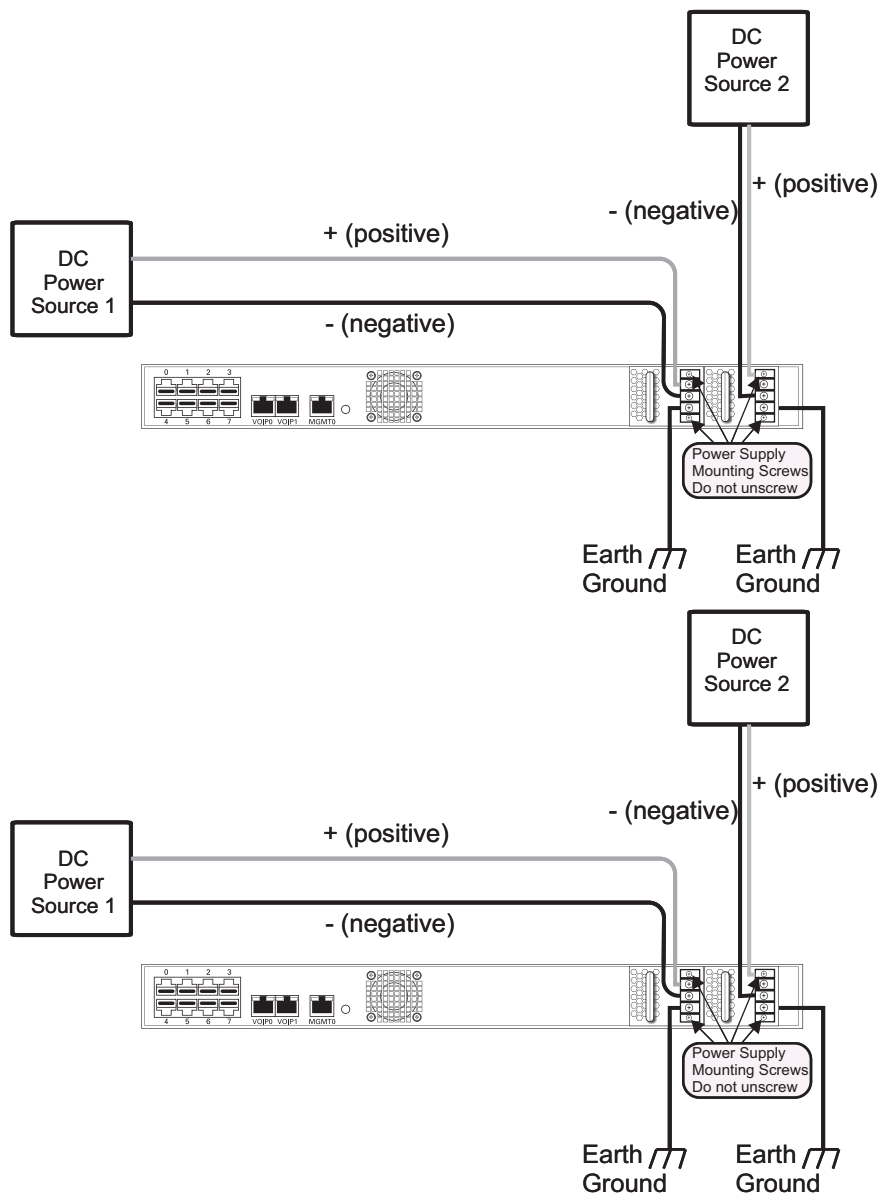

Figure 2.12 800 Series and 800 Series +1 DC Power Connections
1. Connect one wire from the positive terminal of the 800 series gateway to the positive side of DC power source one, as shown in figure 2.12 on page 27.